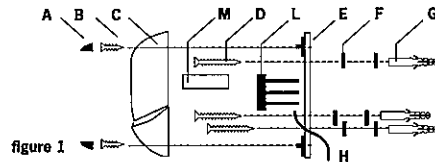

figure 1
1. To install the unit remove the photocell covers as shown in figure 1.
5. On the basis of the exploded diagram in figure 1, fasten the body of photocell "E" to the wall using the retention screws "D", the rubber washers for centring "F" and the anchors "G".
9. (Excluded FT00/6) In the event of the transmitter/receiver distance being below 4-5 metres, correct system operation could be impeded by the presence of any reflecting metal parts. In this case, low range will have to be set and/or channelling tube "M" (see figure 1), with 5 mm diameter, will have to be fitted on the photocell of the receiver.
10. Fit cover "C" using the retention screws "B" (see figure 1). Make sure the system is working properly by breaking the infrared beam several times by placing an obstacle between the transmitter and the receiver.